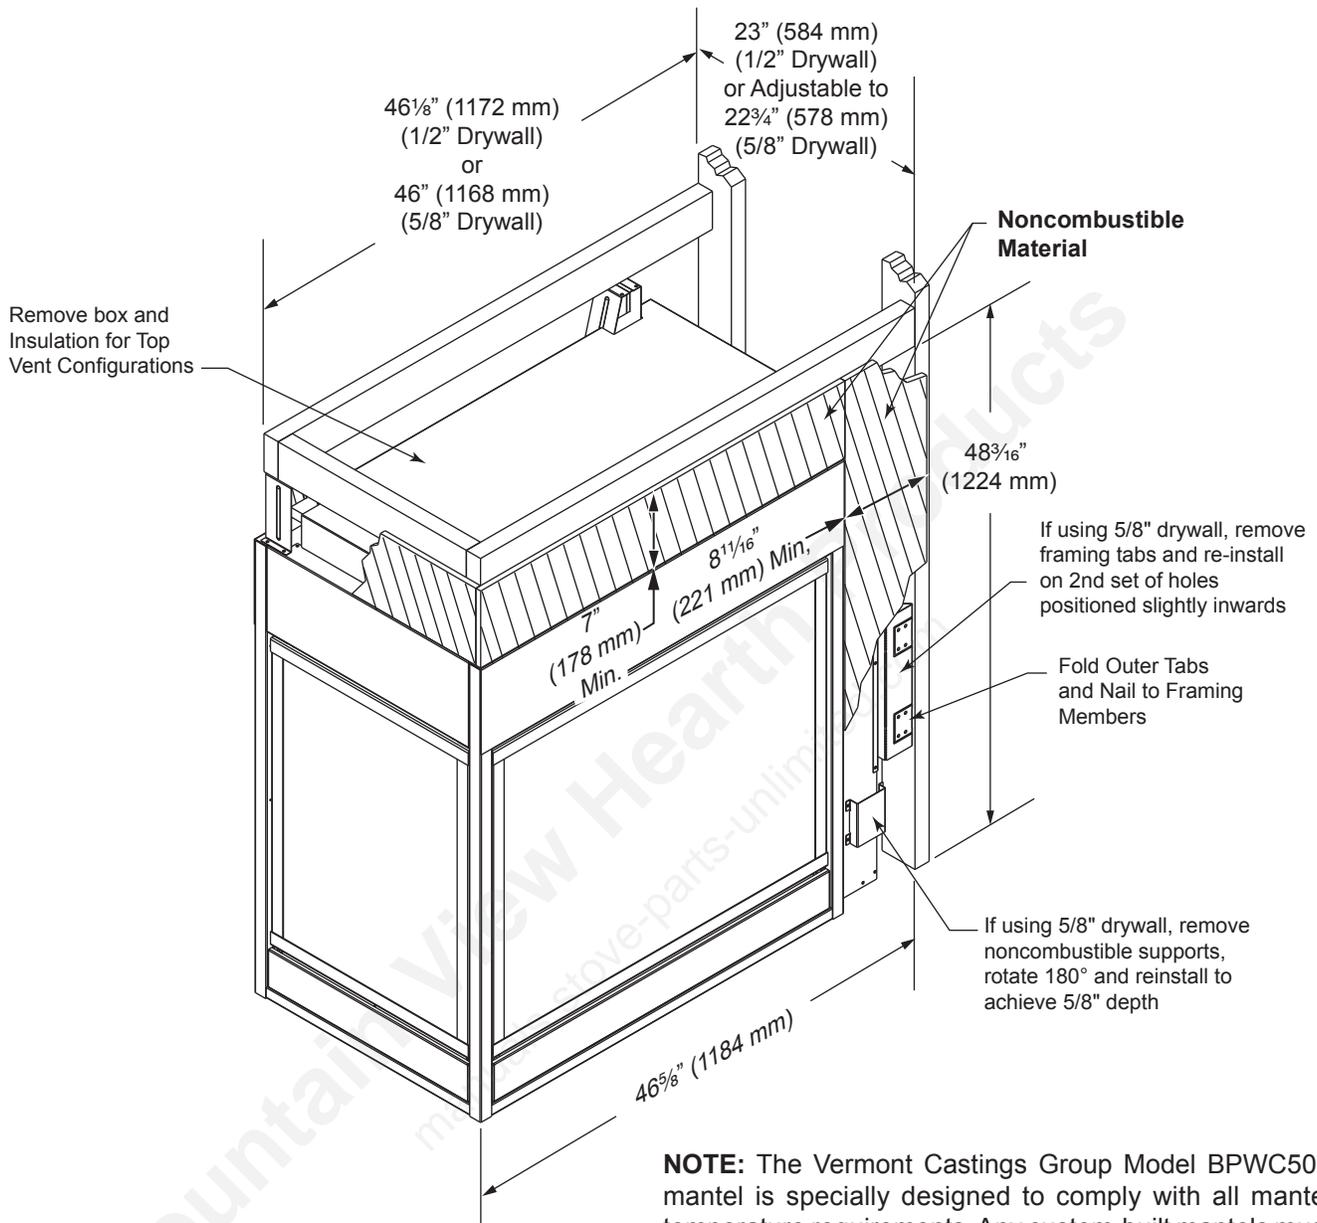

Figure 7 - PFDV (Peninsula) Framing
The fireplace must be secured to the floor and/or to framing studs as shown in *Figure 7*. Use four (4) wood screws or masonry/ concrete screws to secure fireplace to the floor. Use four (4) screws to attach fireplace to framing. The side brackets or nailing flanges are designed to accommodate two wall boards thicknesses, 1/2" or 5/8".